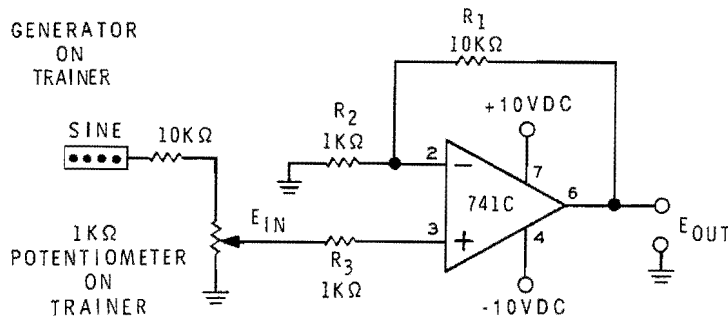

Figure 3-61
40. Construct the circuit shown in Figure 3-61. Set the generator frequency to 1 kilohertz. Turn on the Trainer.
The amplifier shown in Figure 3-61 has a gain of: